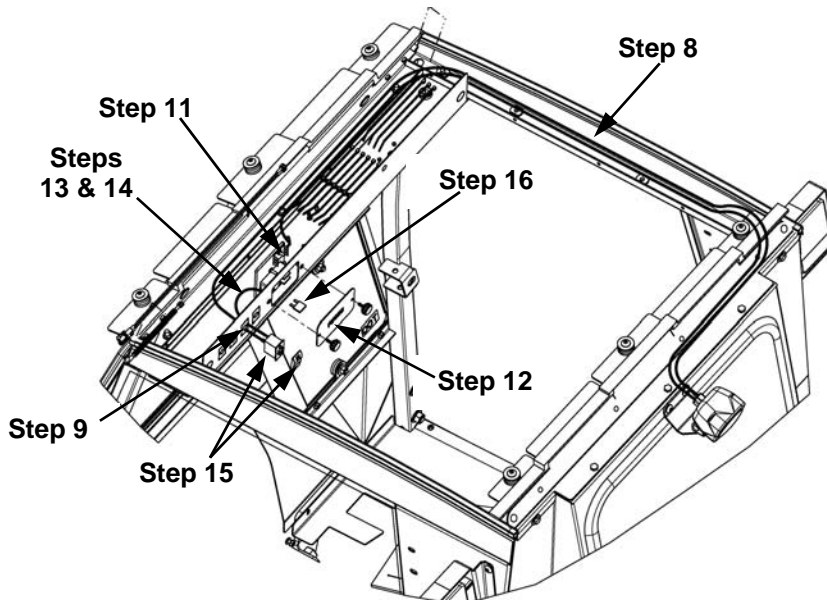

Figure 5
7. Locate rear light wire harness with light connector end (8). Connect to light (Figure 5).
8. Route opposite end of wire harness, from rear of cab, along RH cab header channel, to the front switch panel area (Figure 5).
9. Select an empty location on switch panel for rocker switch (5). Remove rectangular knockout (Figure 5).
10. Route red wire of rear light wire harness through switch knockout and connect to rocker switch terminal 3. Refer to labels on harness (Figure 5) for correct wire connections.
11. Connect **black** wire of harness labeled -12VDC Lights to ground terminal of fuse block (Figures 5 and 6).
14. Connect straight connector of wire through switch knockout hole and connect to rocker switch terminal 2 (Figures 5 and 7).
15. Attach switch actuator (6) to rocker switch (5) then install switch into knockout (Figure 5).